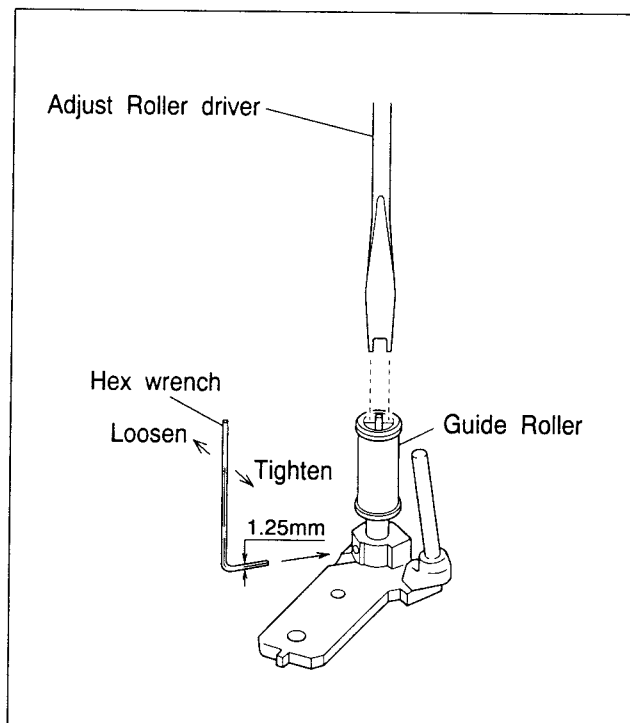
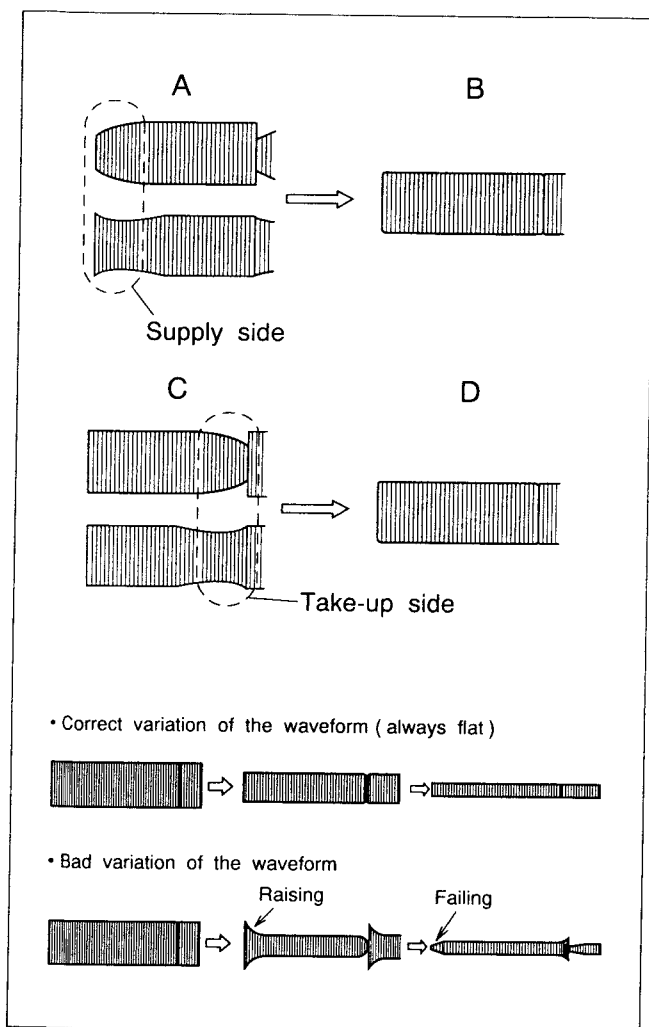
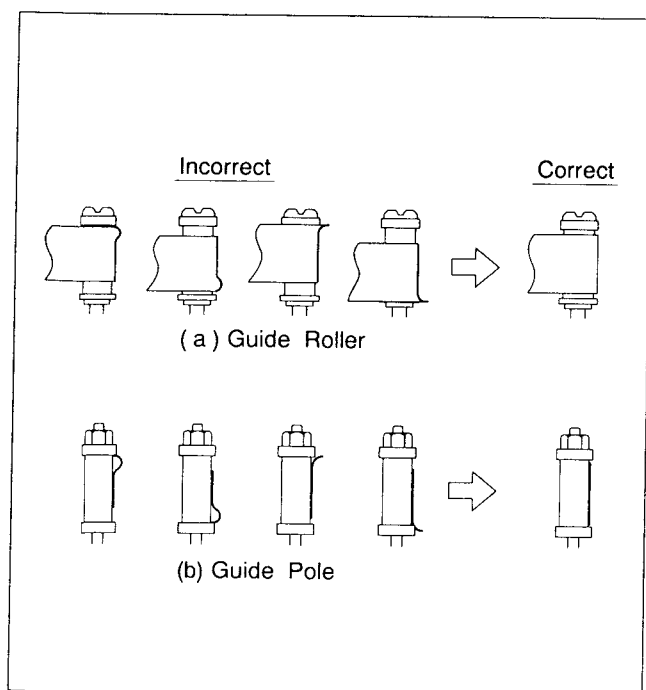

Fig. 2-7-2
Fig. 2-7-3
Fig. 2-7-4
- (6) When the FM waveform does not remain flat during this process,first slightly loosen the set screw located at the bottom of the guide rollers.Using the guide roller adjustment tool (Roller driver),adjust the supply and take-up guide rollers (refer to Fig.2-7-2) to obtain the correct waveform as indicated in Fig.2-7-3.
- (7) By pressing the TV PROG button several times, vary the FM waveform output from maximum to minimum (and vice versa) gradually,and confirm that the variation proceeds in flat shape, as shown in Fig.2-7-3.
- (8) Record the signal and play it back in the SP mode,confirm that the FM waveform is flat in SP mode.
- (9) After adjustments,tighten the set screw of the guide rollers.
- (10) Confirm that the tape wrinkling does not occur at the roller upper or lower limits as indicated in Fig.2-7-4.